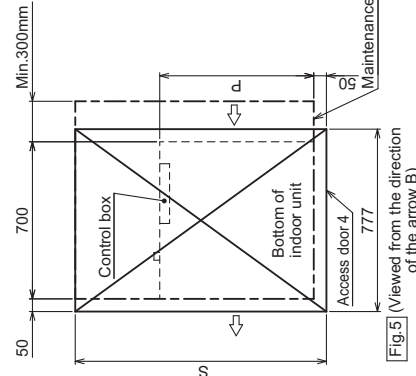

Fig. 5 (Viewed from the direction of the arrow B)
- Create access door 4 below the control box and the unit as shown in Fig. 5.
· Create access door 4 below the control box and the unit as shown in Fig.5.
[Fig.5] (Viewed from the direction of the arrow B)